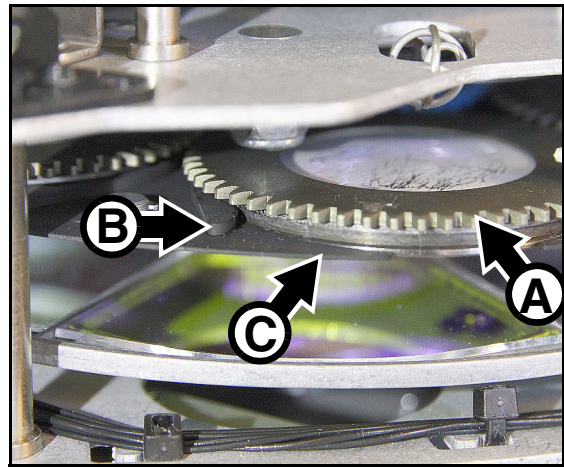

Figure 16: Gobo removal
- See Figure 16. Grasp the goboholder **A** by its edge and pull it out of its clip **B**, ensuring that it clears the surrounding plate **C** in the gobo wheel to remove it from the wheel. You may need to press gently down on the plate **C** while you pull the gobo free.